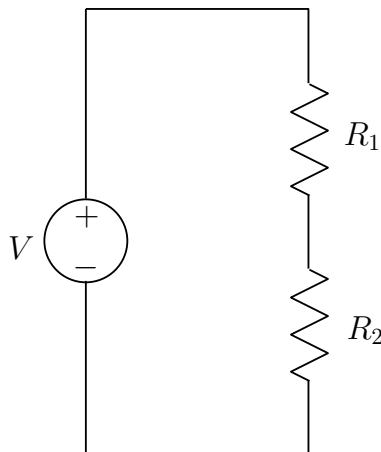

Figure 10.1: Voltage divider.
1. Using Ohm's law, calculate expressions for the current in, and voltage across, the resistor R_2 in Figure 10.1.
1. Build the circuit shown in Figure 10.1. Set R_1 to 10 k Ω , R_2 to 100 k Ω , and using your DC power supply set V to 10 V. (Remember to color-code your circuit!)